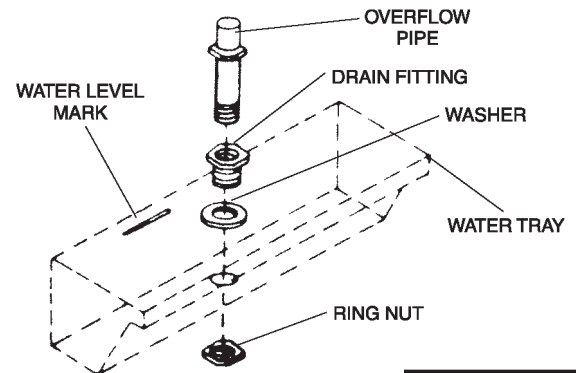

FIGURE 11
PUT IN WATER TRAYS (Fig. 11)
5. Turn on the water. Check the water level when the valve shuts off. If the water level is above the tray water level mark bend the float rod down. If the level is too low, bend the rod up. (Fig. 11)